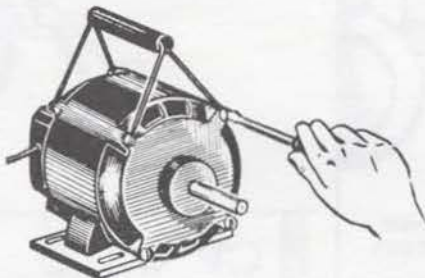

Figure 1
1. Make a handle by slipping the two rubber covered lengths of wire through the rubber hose. Strip insulation from the ends of the wire and form hooks. Fasten the hooks under the top frame bolts of the motor (Figure 1). The wire may have to be flattened under the bolt heads. Check to see that the motor shaft turns freely after tightening the bolts.